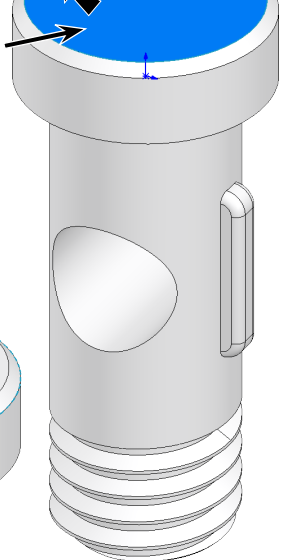

Fig. 61
Step 2. Click the **top face of head** and click **Sketch**  on the context toolbar, **Fig. 61**.